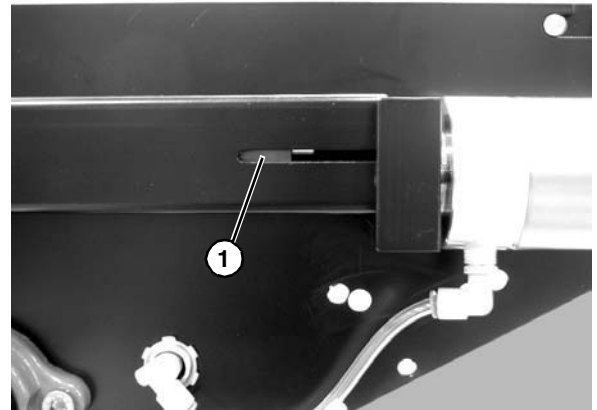

Figure 35
3. If proper belt tension cannot be achieved before the out of tension indicator (**Figure 35, item 1**) begins to turn red, the belt must be replaced.